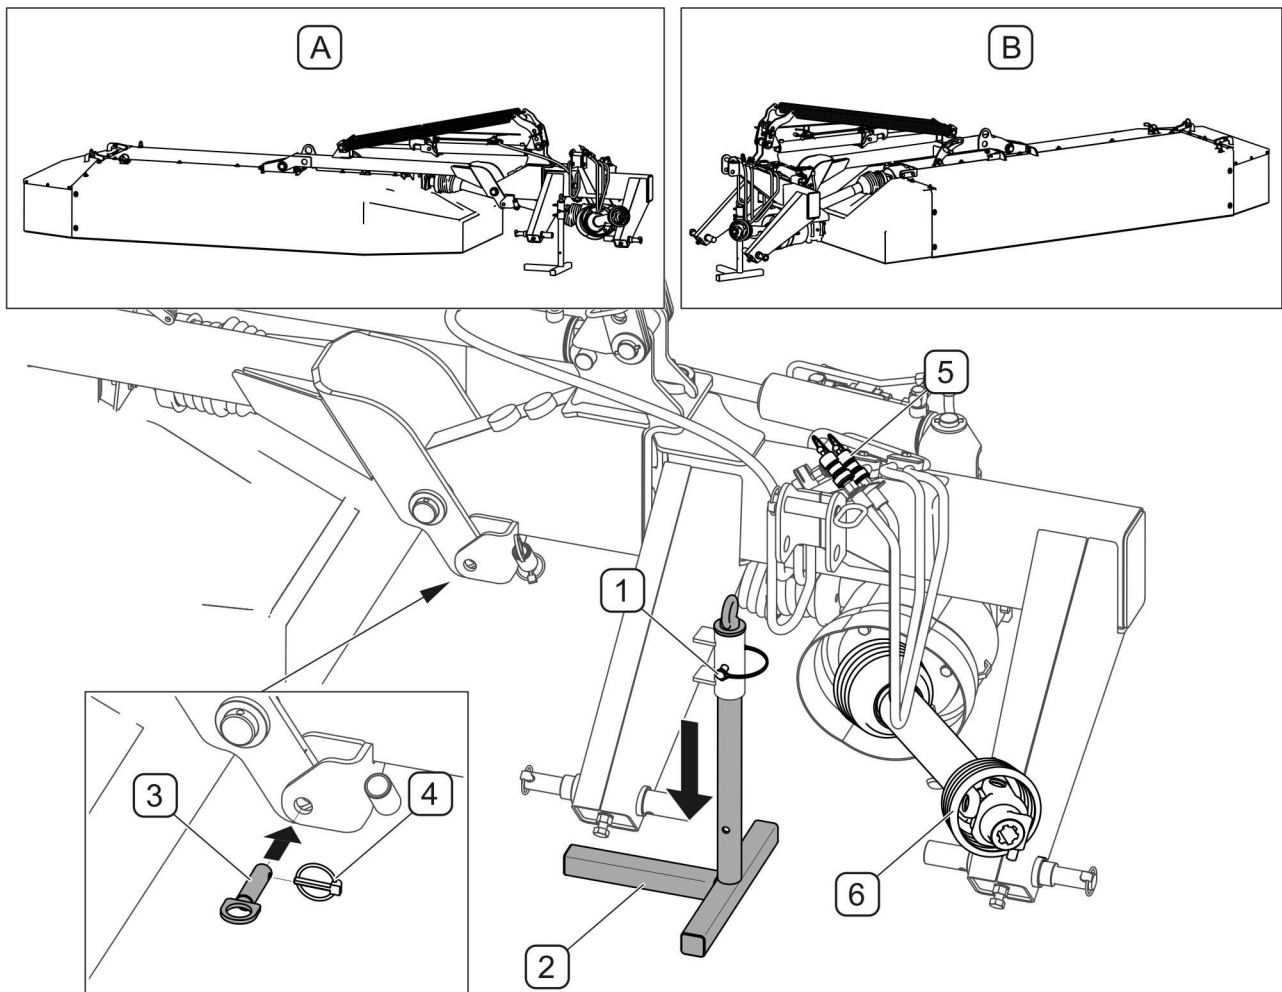

FIG. 4.14A **Disconnecting mower from tractor**
Before disconnecting mower from the tractor's linkage, lock the lifting arm in parking position using pin (3) and cotter pin (4) (FIG. 4.14A). Do not disconnect mower from tractor before lifting arm is interlocked.
- set cutting unit in an appropriate position (A) or (B)
- remove securing pin (1) and lower support leg (2)) (FIG. 4.14A) and conditioning assembly parking stands (7) (FIGURE 3.6A) (PDT290C);
- Using pin (3) and cotter pin (4) secure lifting arm and parking position;
- disconnect hydraulic conduit plugs (5) from tractor and secure with stoppers and place in special brackets on mower frame,
- disconnect PTO shaft from tractor's PTO drive (4) and place on special bracket on mower frame,
When disconnected from tractor, the mower should be set in position (A) or (B) resting on support leg (2) and cutterbar (FIG. 4.14A) and on conditioning assembly parking stands (7) (FIGURE 3.6A) for the mower version with swath conditioner (PDT290C).